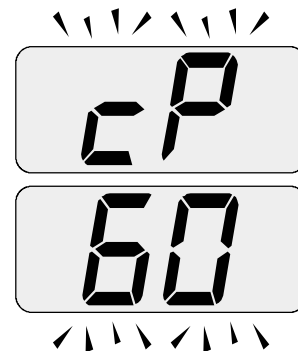

Fig. 8.8
- 20 Press key A to vary the output in chimney sweep mode: when the display shows the letters **CP** that alternate with the heating water temperature value (e.g. **60**), the "chimney sweep function" is at maximum output in heating mode (Fig. 8.8);